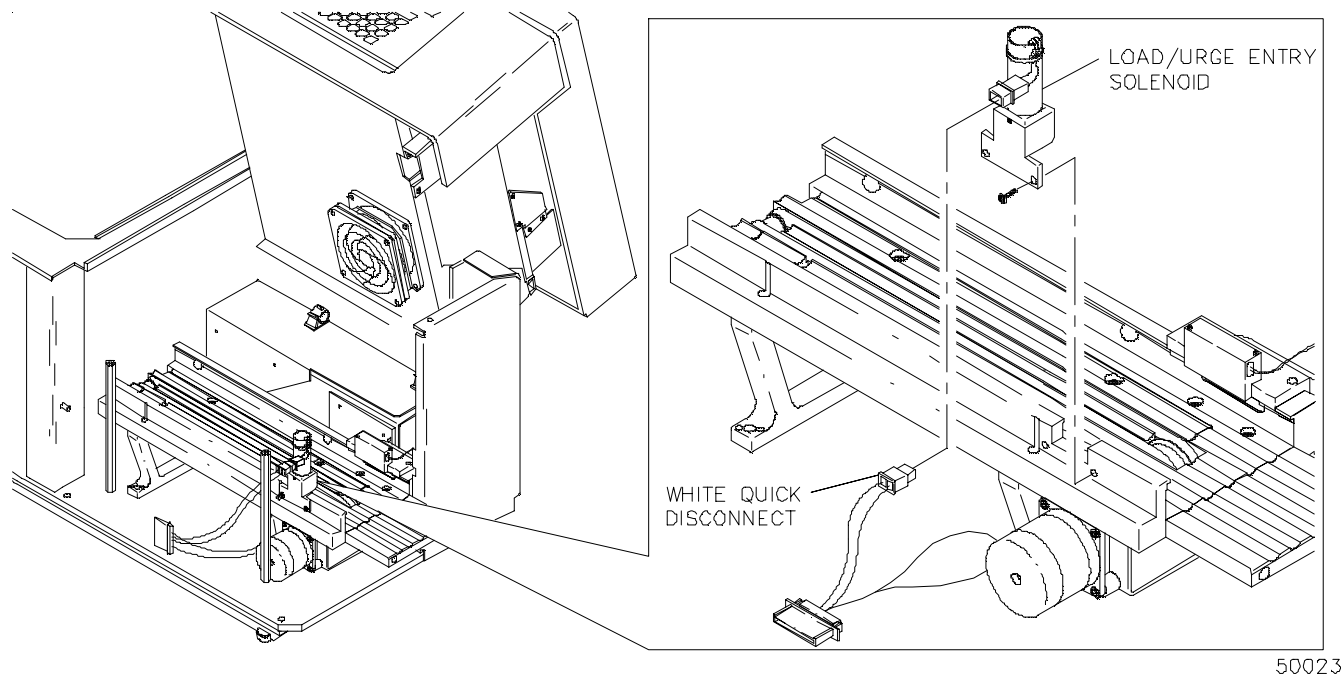

Figure 4-23. Load Urge Entry Solenoid
5. Disconnect solenoid cable (**Figure 4-23**).